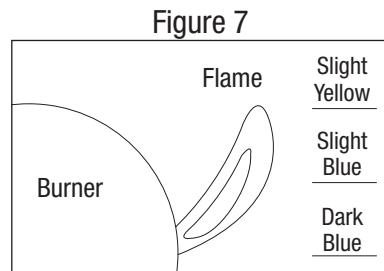

Figure 7
8. After lighting, observe the burner flame, make sure all burner ports are lit and flame height matches illustration. (Figure 7)